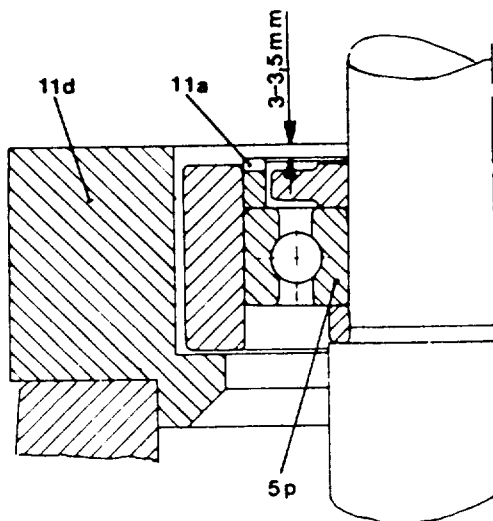

Fig. 8/5b
**Each time the bowl has been lowered or raised**, check if there is a clearance of 3 to 3.5 mm between cams of distance ring 11a (Fig. 8/5b) and neck bearing bridge 11d. In order to be able to check this clearance, remove bowl, operating-water feeding device, spindle cap and neck bearing protection cap, unless these parts have already been removed before raising the bowl by more than 1 mm. This check is not required if it has been made after re-assembling the vertical gear parts (see 8.2.1) and the bowl had not to be raised by more than 1 mm.